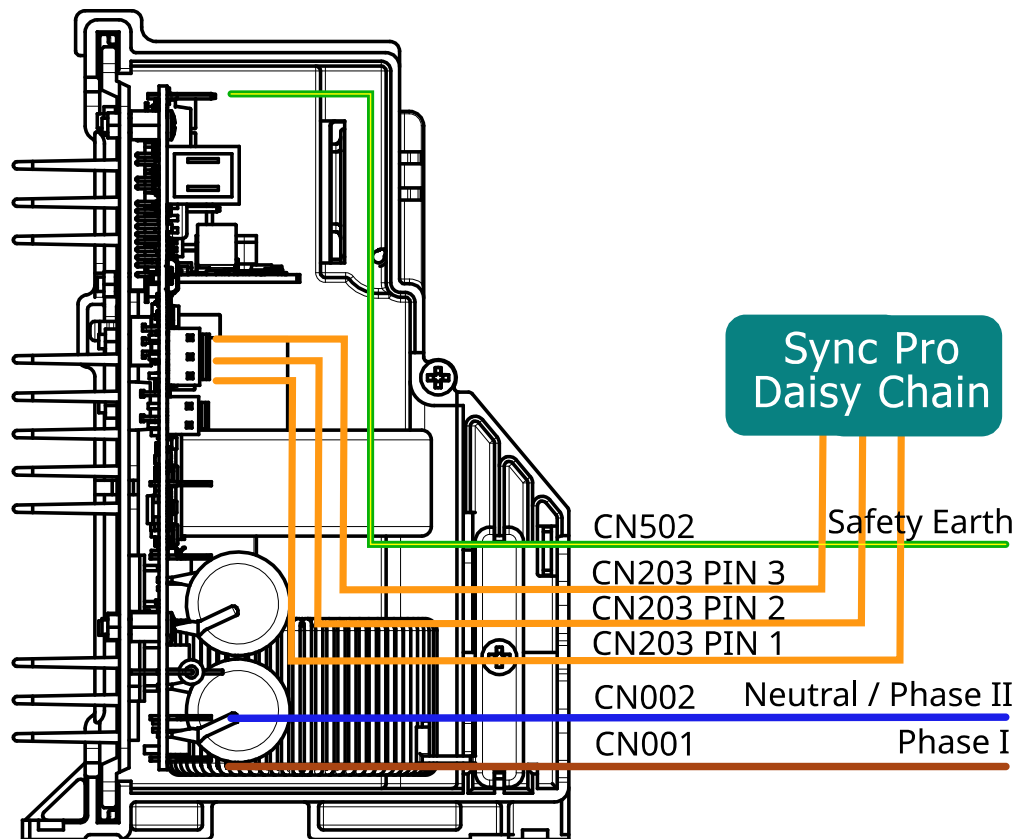

Figure 4-12: Sync Pro connections
- This cable is 0.2m long and connects to the 3-pin connector of the inverter's serial interface showed in Figure 4-12.